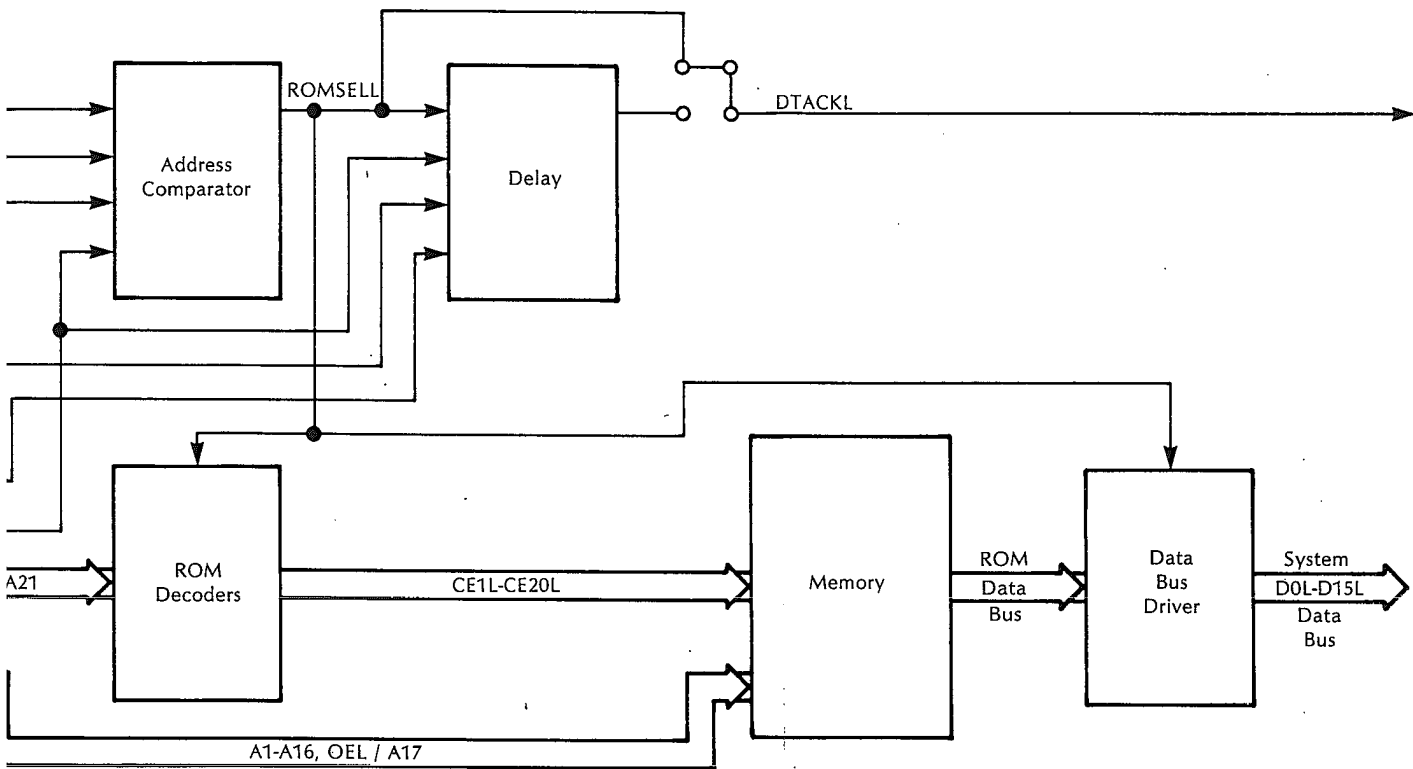

Figure 6-A3b ROM Block Diagram
(Refer to figure 6-A4) The A4 Local Oscillator (LO) produces digital sine and cosine signals which are synchronized with the sample rate. The LO outputs digital sine and cosine signals to the A5 Digital Filter. The digital filter uses these signals for the mixing operation when the instrument is in the 'zoom mode' (frequency span <100 kHz). The LO also outputs a cosine signal (NDAT) to the A1 Digital Source. The digital source uses the digital data from the LO to create band-limited noise and interfaces the LO output with the analog source. The analog source is basically a digital-to-analog converter for the LO digital sine wave. The LO output to the digital source is determined by the operation mode of the instrument as follows: